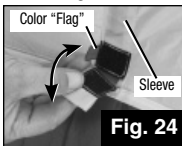

Fig. 24
NOTE: Carefully unroll metal "springs" stored in bag with stakes. The color marking on each "spring" should match the color of the fabric "flag" sewn to the window or door sleeve opening. (Fig. 24)
1. Locate sleeve(s) in window panel, open hook & loop fastener; then insert "spring(s)" with matching color marking. (Fig. 24 & 25)